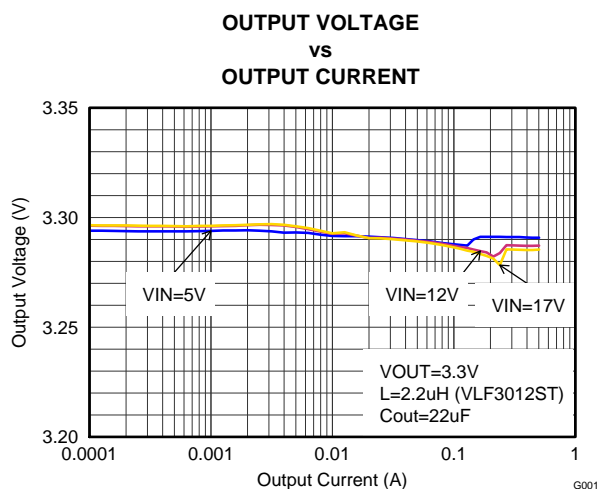
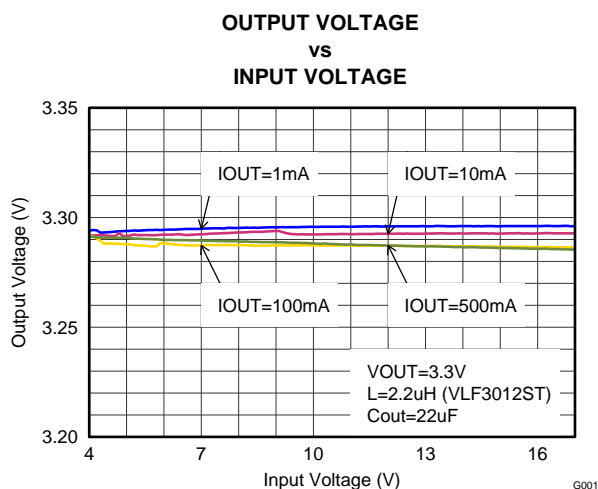

Figure 13. Output Voltage Accuracy (Load Regulation)
Figure 14. Output Voltage Accuracy (Line Regulation)
(4) This is the voltage regulated at the FB pin.
(5) This is the accuracy provided by the device itself (line and load regulation effects are not included). For fixed voltage versions, the (internal) resistive feedback divider is included.
(6) Line and load regulation are depending on external component selection and layout (see Figure 13 and Figure 14).